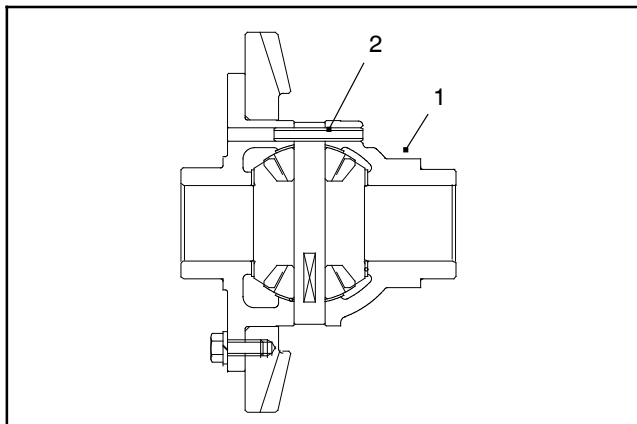

Figure 38
6. Drive the spring pin from the differential case with a punch and hammer. Discard the spring pin (Fig. 38).